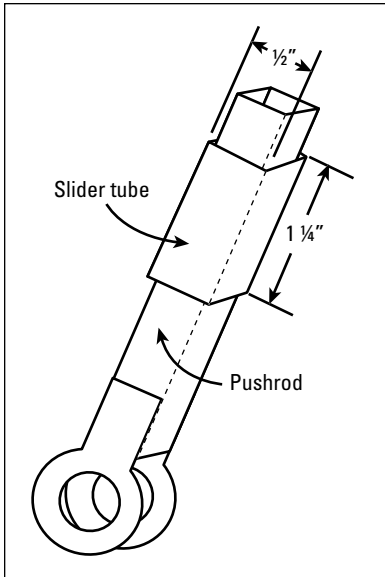

Figure 12-8:
2. Assemble the pushrod and slider tube (see Figure 12-8).